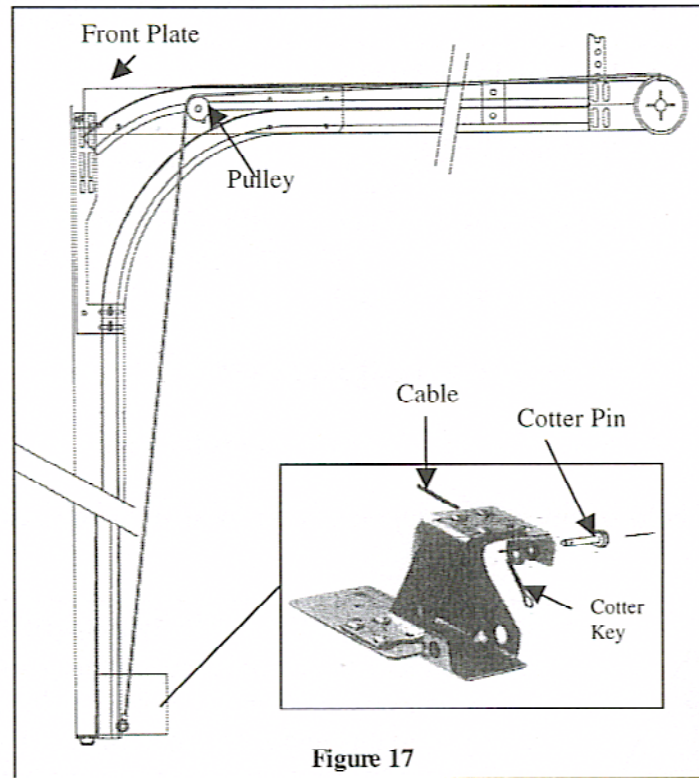

Figure 17
- Attach the pulley to the front plate of the track by using a 3/8" x 1 1/2" hex head bolt. (See figure 17)